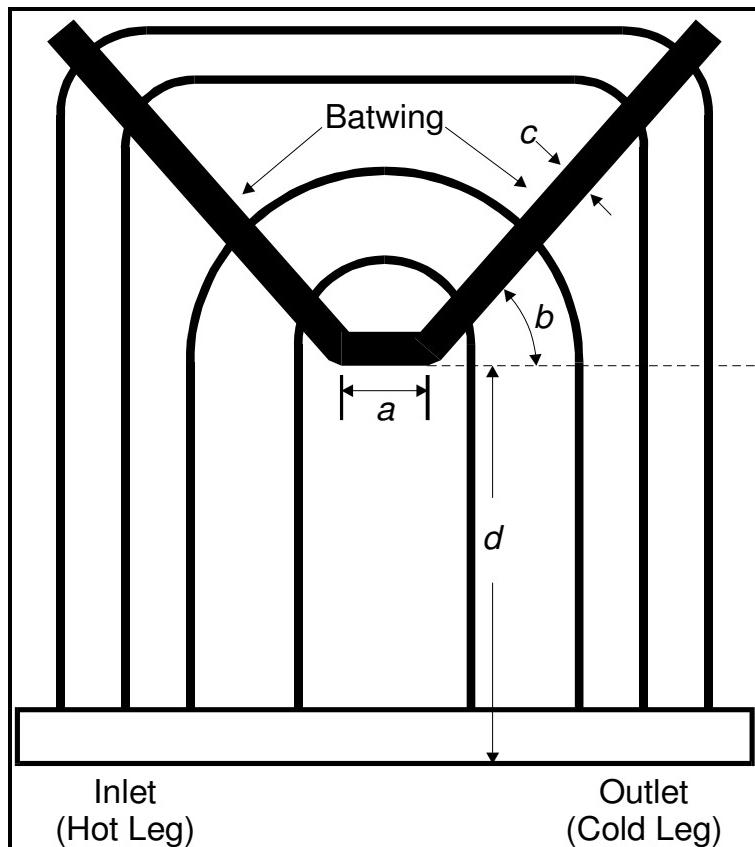

Figure 33. Determining Batwing Values on the Attributes Dialog
- **Batwing Thickness:** The batwing is unique to CE Model 80 steam generators. Enter the thickness of the batwing. In Figure 33, the **Batwing Thickness** is shown as dimension 'c'. If the batwing is not present, leave this field set to 0 (zero).
- **Batwing Angle:** Enter the angle of the batwing. In Figure 33, the **Batwing Angle** is shown as angle 'b'. If the batwing is not present, leave this field set to 0 (zero).
- **Batwing Base:** Enter the length of the base of the batwing. In Figure 33, the **Batwing Base** is shown as dimension 'a'. If the batwing is not present, leave this field set to 0 (zero).
- **Batwing Pos:** Enter the distance in linear units from the base of the batwing to the tube end at the inlet-outlet tubesheet. In Figure 33, the **Batwing Pos** is shown as dimension 'd'. If the batwing is not present, leave this field set to 0 (zero).